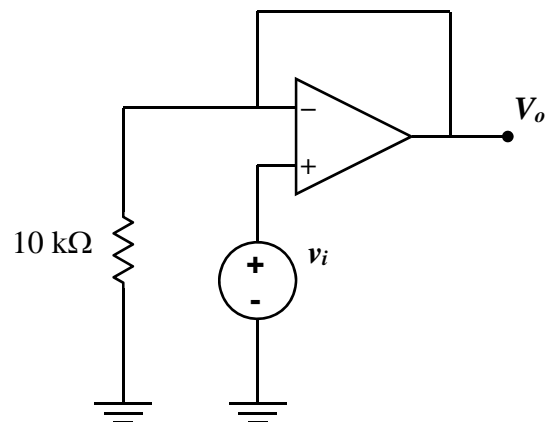

Figure 5.5
20. Construct the circuit shown in **Figure 5.5**, with $v_i = 3.00 \text{ V}$. Record the measured value of v_i in **Table 5-2**. Before applying the signal v_i , make sure the positive and negative supply voltages still provide $+15 \text{ V}$ and -15 V .